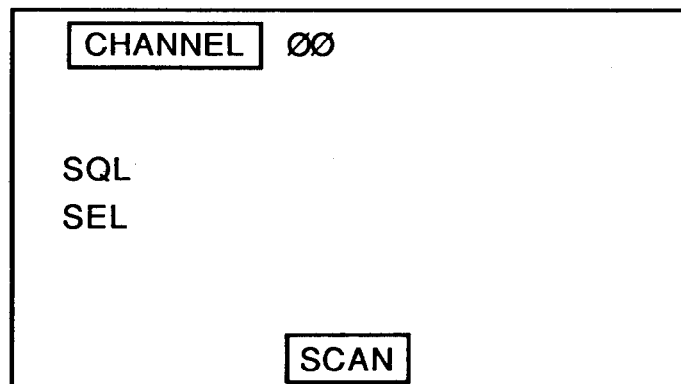

Figure 2-20. SELADR Scan Display
After the contact is completed, the operator may push the KEY pushbutton (10) to reenter the SELADR Scan mode. Otherwise, step 2 above may be used to reenter the SELADR Scan mode. The display during SELADR Scan appears as in figure 2-20 with the CHANNEL word and SCAN in inverse video. The channel number changes as each channel is scanned.